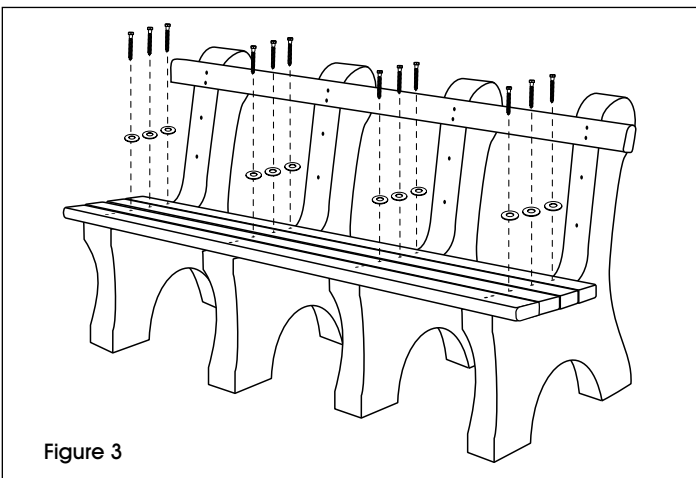

Figure 3
5. Align three single hole bench slats on the pre-drilled holes of the bench base seat. Loosely attach the single hole bench slats with the 3½" lag screws and washers using the power drill and 7/16" socket bit (will tighten later in step 7). (See Figure 3)